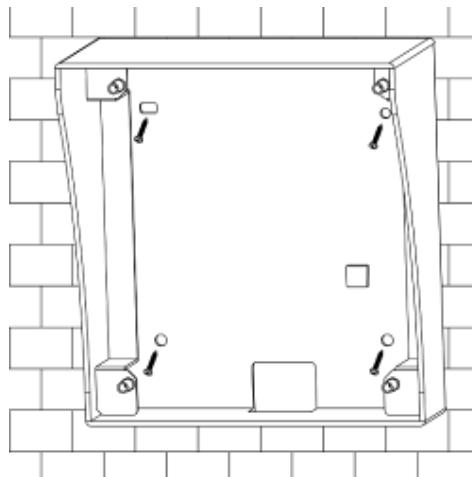

Figure 5- 1
- a) Install metal bracket into the groove on wall. Secure 4 fasten screw (ST4.2×25), and fix metal bracket on wall. See Figure 5- .